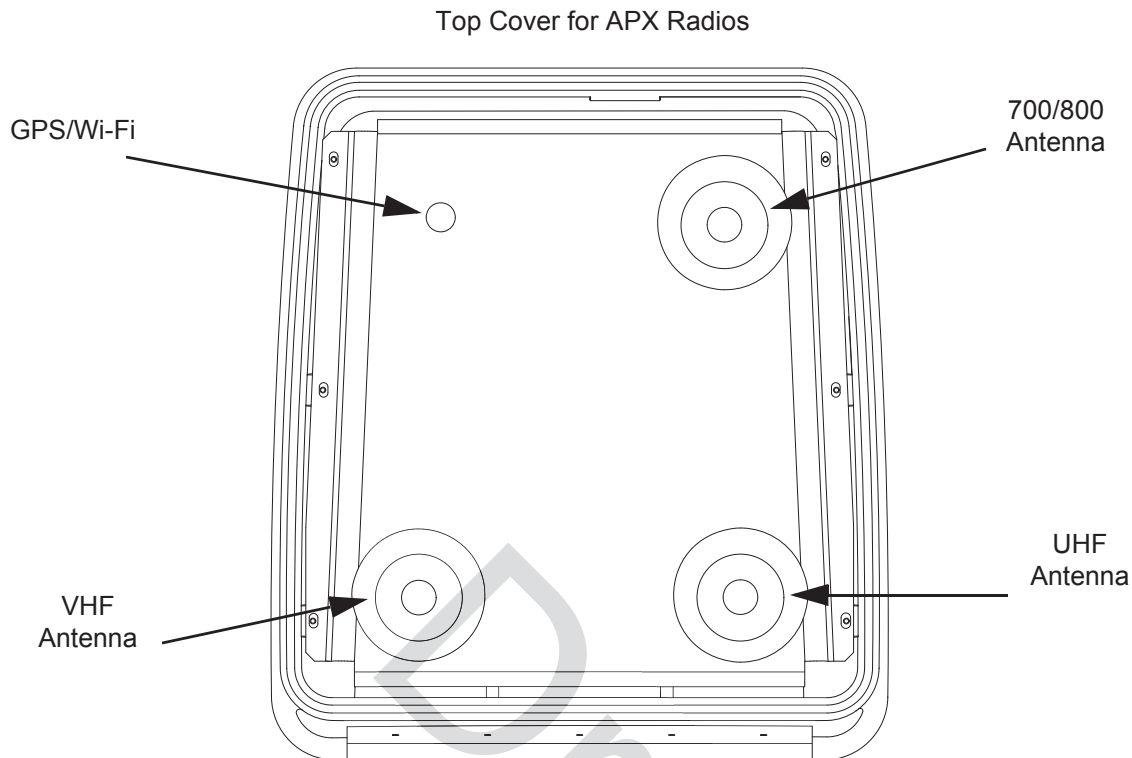

Figure 5-9. Antenna Port Locations
5. Locate the two round, depressed areas about 3 inches in diameter in the metal liner near the enclosure hinge. Referring to Figure 5-9, these areas are either VHF or UHF depending on the antenna port locations. For the GPS antenna, use the 1 inch hole near the front of the housing near the lock.